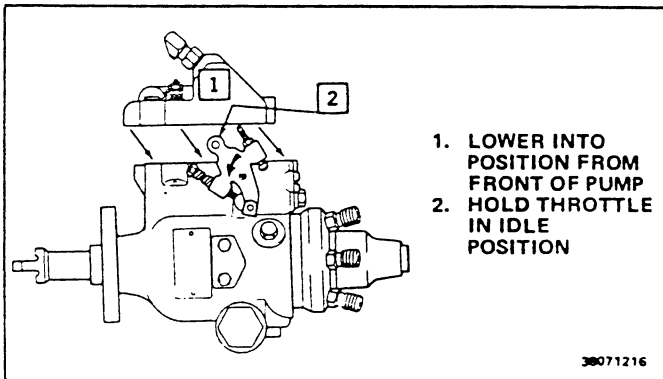

Fig. 6C5-32 Installing Injection Pump Cover
9. Install new pump cover seal. Make sure the screws are not in the cover and position the cover about 6mm (1/4 inch) forward (toward shaft end) and about 3mm (1/8 inch) above the pump (Fig. 6C5-32).
12. Turn the ignition switch to the run position and touch the pink solenoid wire to the solenoids. A clicking noise should be heard as the wire is connected and disconnected. If this clicking is not observed, the linkage may be jammed in a wide open throttle position and the engine **MUST NOT** be started. If clicking is observed, connect the pump solenoid and housing pressure cold advance wires (Fig. 6C5-16 or 6C5-17) then proceed to Step 15.